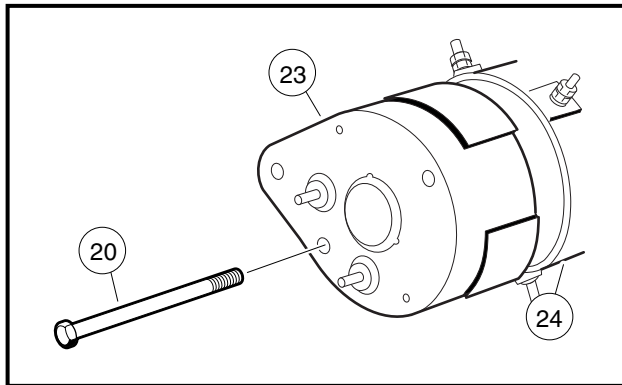

Figure 12-3 Commutator End Cover
1. Remove the two bolts (20) and pull commutator end cover (23) free of starter/generator housing (24) (Figure 12-3, Page 12-3). See following NOTE.
3. Install the commutator end cover (23) onto the armature shaft. Align the locating pin and hole in the cover. Install two M6 x 180 mm bolts (20) and tighten to 100 in-lb (11.3 N·m) (**Figure 12-3, Page 12-3**).
1. Remove the two bolts (20), and pull commutator end cover (23) free of the starter/generator housing (24) (**Figure 12-3, Page 12-3**). See following NOTE.
9. Install the commutator end cover (23) onto the armature shaft. Align the locating pin and hole in the cover. Install the two M6 x 180 mm bolts (20) and tighten to 100 in-lb (11.3 N·m) (**Figure 12-3, Page 12-3**).